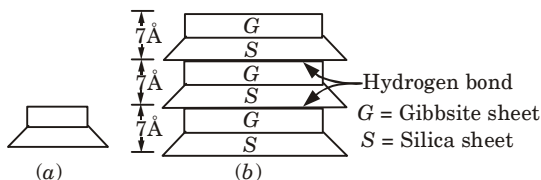

Fig. 1.21.1. Structure of kaolinite mineral.
2. Its basic structural unit consists of gibbsite sheet (G) with aluminium atoms at the centre.
3. It is joined to silica sheet (S) through the unbalanced oxygen atoms at the apexes of the silica sheet.
5. The basic structural unit of kaolinite mineral is symbolized as shown in Fig. 1.21.1(a).